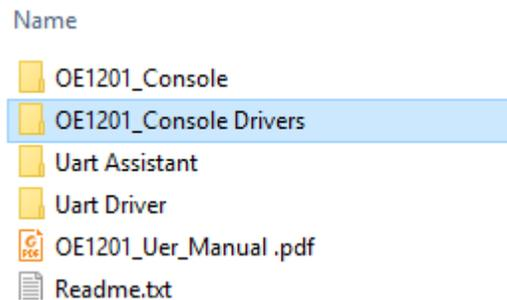
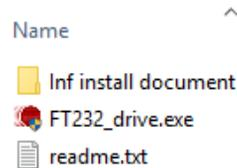
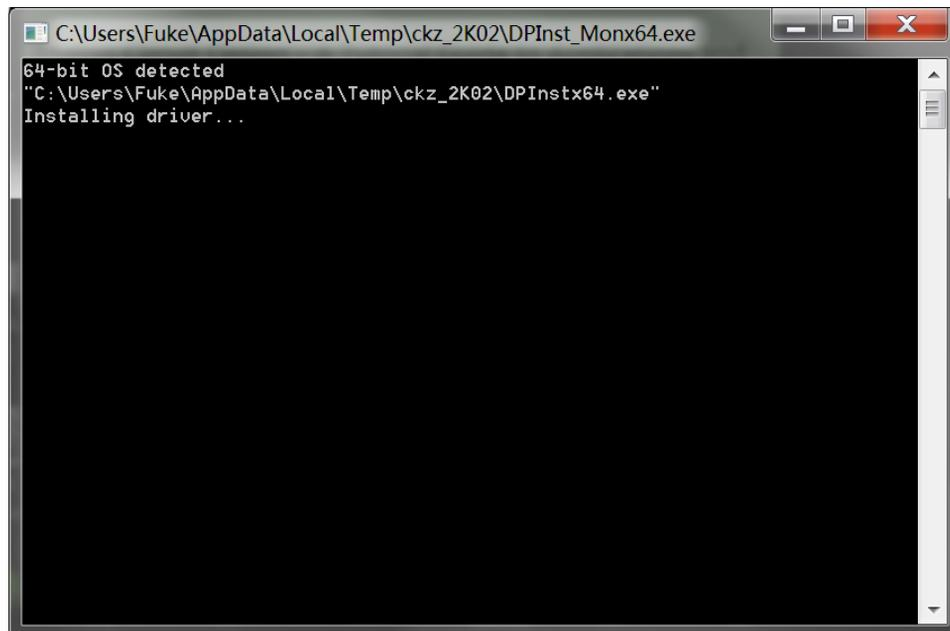
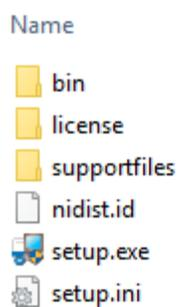

Fig.27 Software files.
Fig.28 “Uart Driver” files
Fig.29 FT232 Driver Installing Interface
Fig.31 "OE1201_Console Drivers" File
The required software is provided with the CD disk as below in Fig 27.
1) Double-click “FT232_drive.exe” in Fig.28 in the fourth file “Uart Driver” in Fig.27 and then you can see the Fig.29, which shows the installation is running.
- 1) You need to open the first file "OE1201_Console Drivers" in Fig.27 and start to install just as shown in Fig 31.
- 1) Open the second file “OE1201_Console_EN” in Fig. 27.